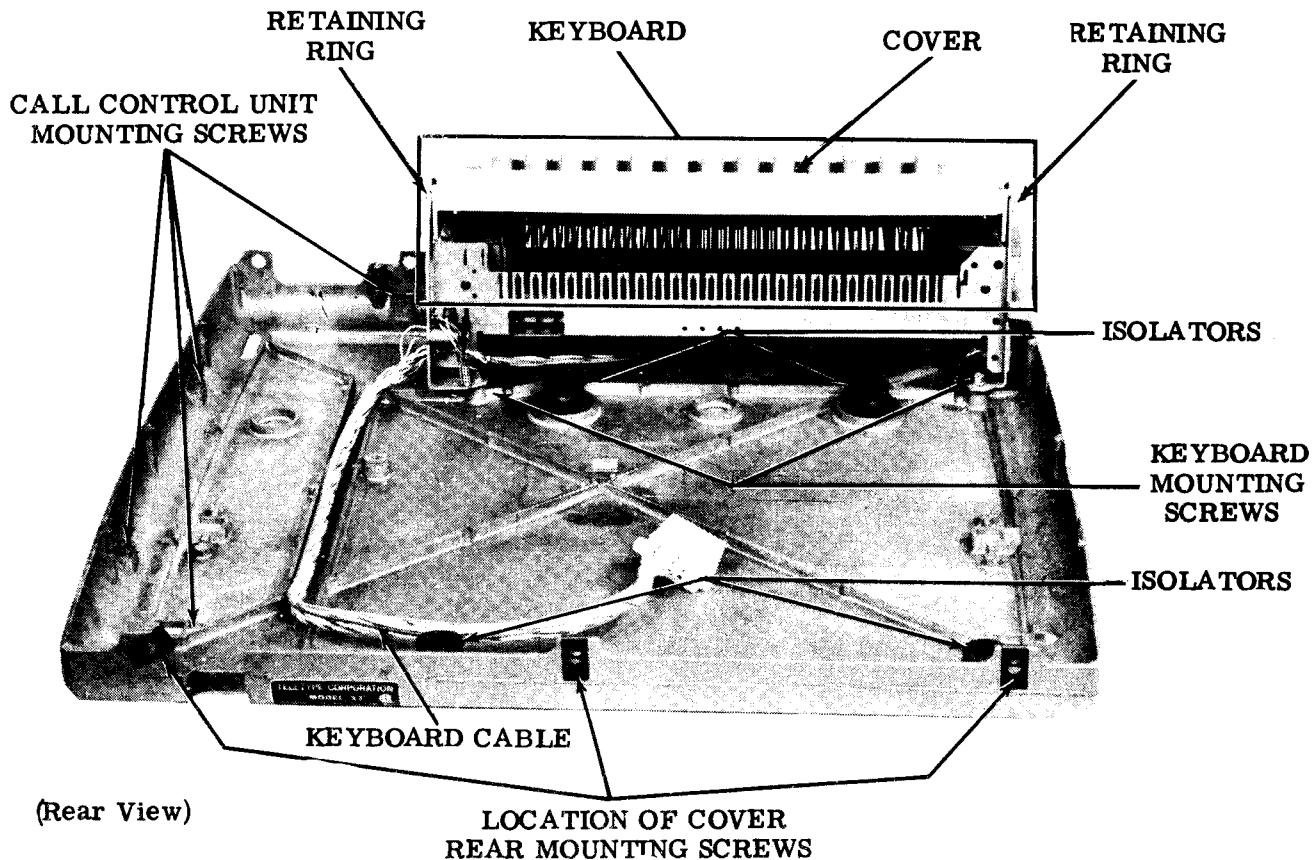

Figure 3 - Subbase With Keyboard
2.03 To remove the keyboard (Figure 3), proceed as follows.
**2.04** To remove the call control unit (Figure 3), proceed as follows.